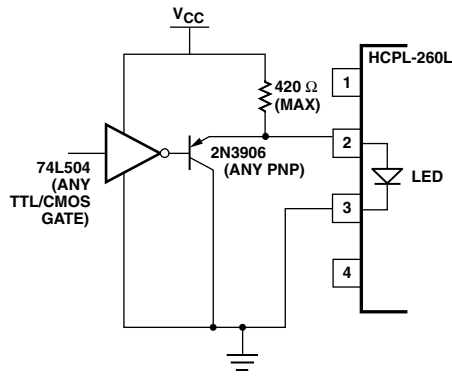

Figure 15. TTL interface circuit.
1. Use of drive circuits where current is shunted from the LED in the LED "off" state (as shown in Figures 15 and 16). This is beneficial for good CMR_{FH} .
Figure 15 shows a circuit which can be used with any totem-pole-output TTL/LSTTL/HCMOS logic gate. The buffer PNP transistor allows the circuit to be used with logic devices which have low current-sinking capability. It also helps maintain the driving-gate power-supply current at a constant level to minimize ground shifting for other devices connected to the input-supply ground.